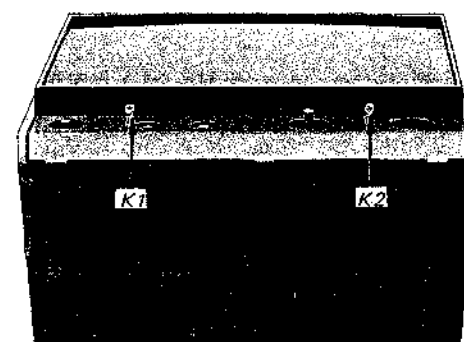

Fig. 2-16.
2. Remove the two screws labeled K1, K2 in Fig. 2-16.